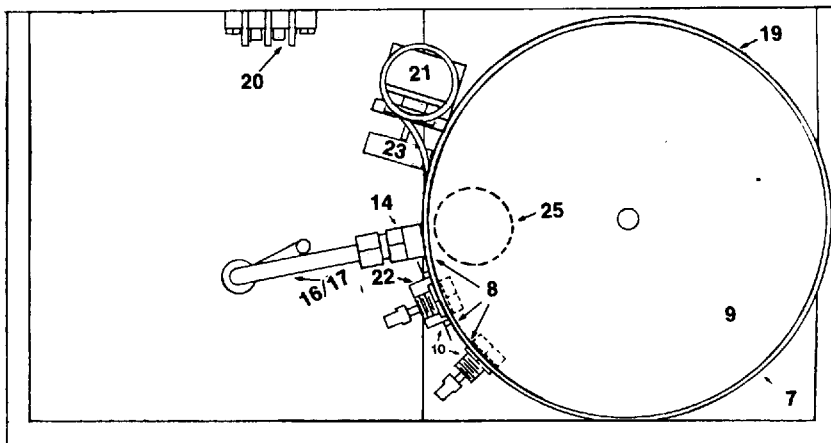

FIGURE 2
4. Remove wires from terminal block (fig. 2 no. 20) that connects to tank (fig. 2 no. 15) and to the main thermostat (fig. 2 no. 21).
### THERMOSTAT, MAIN (100038) Fig. 2 No. 21
3. Remove thermostat knob (fig. 2 no. 23) by pulling toward you.
2. Loosen nut (fig. 2 no. 15) securing hi-limit thermostat bracket to tank.
2. Remove the two brass nuts (fig. 2. no. 15) securing heater element in tank. Pull threaded end of element to inside of tank wall.